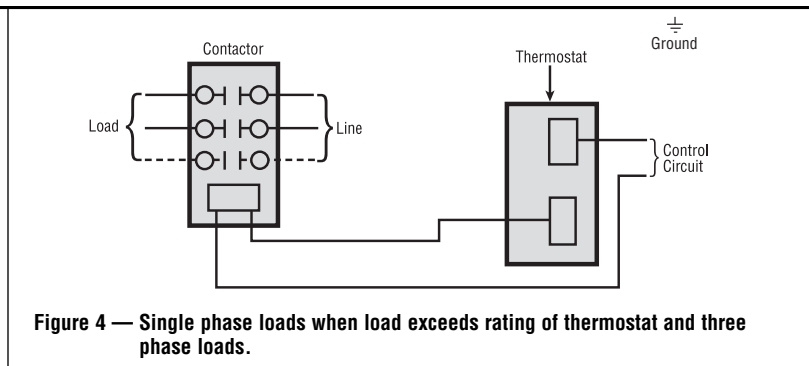

Figure 4 — Single phase loads when load exceeds rating of thermostat and three phase loads.
**Note:** If load amperage or voltage rating exceeds switch rating, a contactor must be used. Contactor and wiring to be supplied by customer. (See Figure 4)